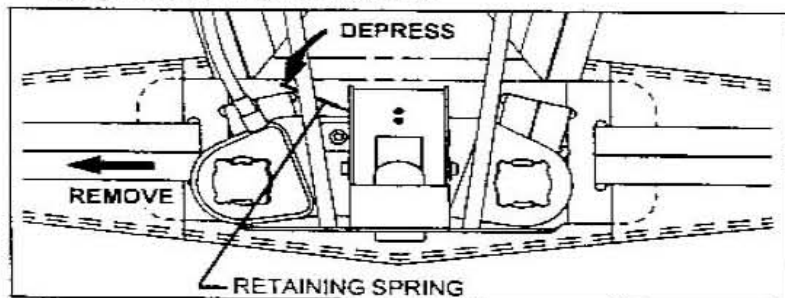

FIGURE 3
2. When replacing batteries on respirators equipped with Backframe, P/N 804415-01, remove the cylinder and place the respirator in a clean, nonhazardous area with the sensor module facing upward as shown in Figure 3.
3. Depress the PAK-ALERT SE distress alarm retaining spring and slide the Sensor Module from Backframe as shown in Figure 3.
10. Install battery cover and evenly tighten 4 cover screws by moving around the cover in a clockwise direction, turning each screw 1 or 2 turns at a time until cover is fully seated. If necessary, reinstall the sensor module by sliding in back-pak as shown in Figure 3. **AFTER REPLACEMENT OF BATTERIES, PERFORM A REGULAR OPERATIONAL INSPECTION BEFORE RETURNING RESPIRATOR TO SERVICE.**